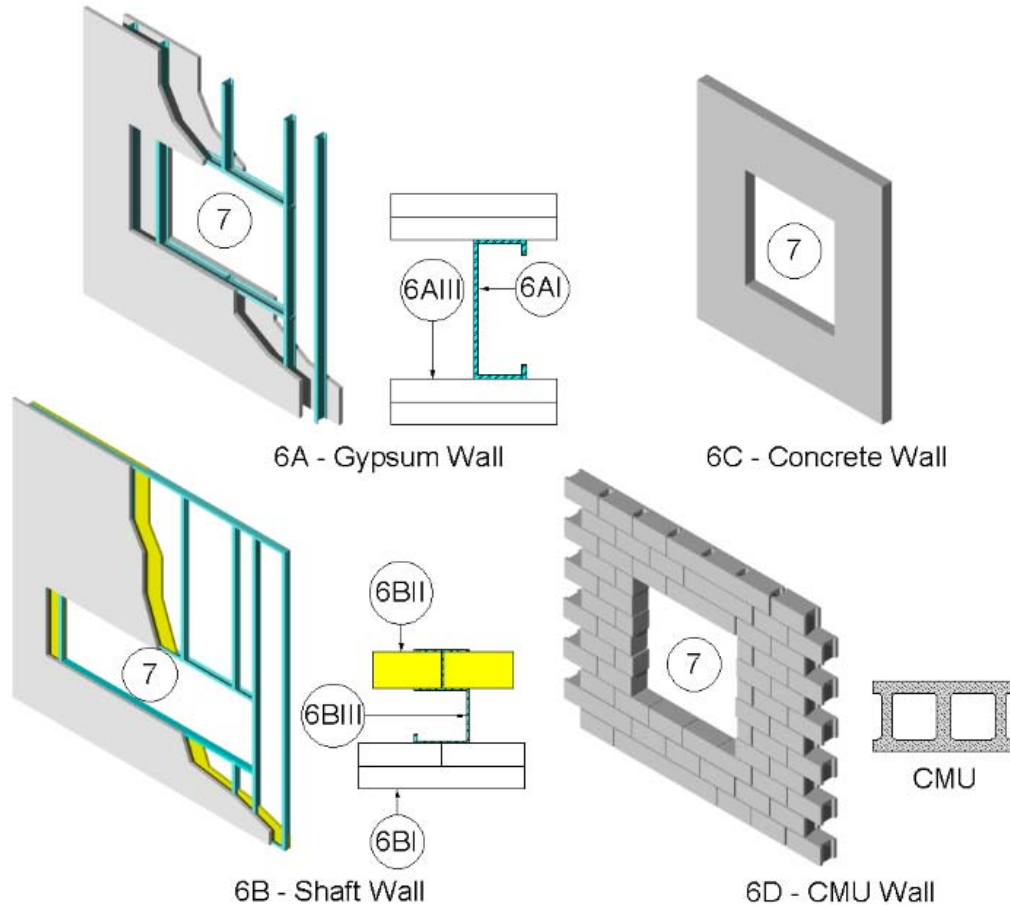

Figure 3
6. SUPPORTING CONSTRUCTION: Refer to Figures 3 and 4. Use one of the following wall or floor assemblies.
7. OPENING: – Refer to Figures 3 and 4. Create an opening in the supporting construction (wall or floor assembly). Determine the opening shape and size to house the ventilation duct's (Item 1), whether with or without insulation (item 4) passing through the opening, shape and size. Position the penetrating item (Item 1) concentrically or eccentrically in the opening so that the annular space ranges from min. to max. as in Table 2. Make the opening with in accord with the following: